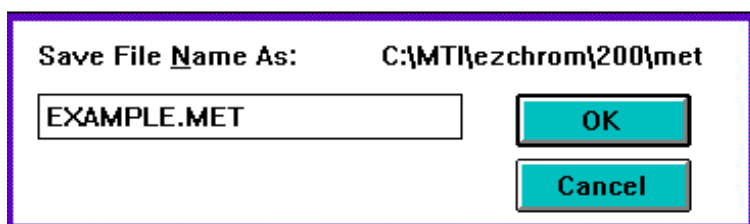

Figure 37 Save file name as
6. Select the **Method** menu and the **Save As** command. There will be a prompt (See Figure 37) which requires you to enter a name for the method you have just constructed. Remember, only eight characters may be used in an ID, and DOS illegal characters are forbidden.